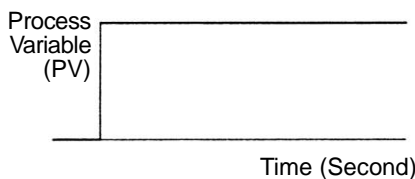
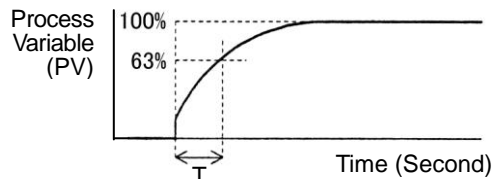

Figure 1. Process variable (PV) before PV filtering process
Figure 2. Process variable (PV) after PV filtering process
(3) Control Register +63: PV Filter Time Constant
The PV filter function is a software filter to stabilize the process variable (PV) affected by fluctuating processes such as pressure or flow rate by calculating first-order lag of the process variable (PV). Even if the process variable (PV) changes as shown in the Figure 1, when the PV filter time constant is configured, the process variable (PV) changes as shown in the Figure 2. After the PV filtering process, the process variable (PV) reaches 63% of the process variable (PV) in T seconds.